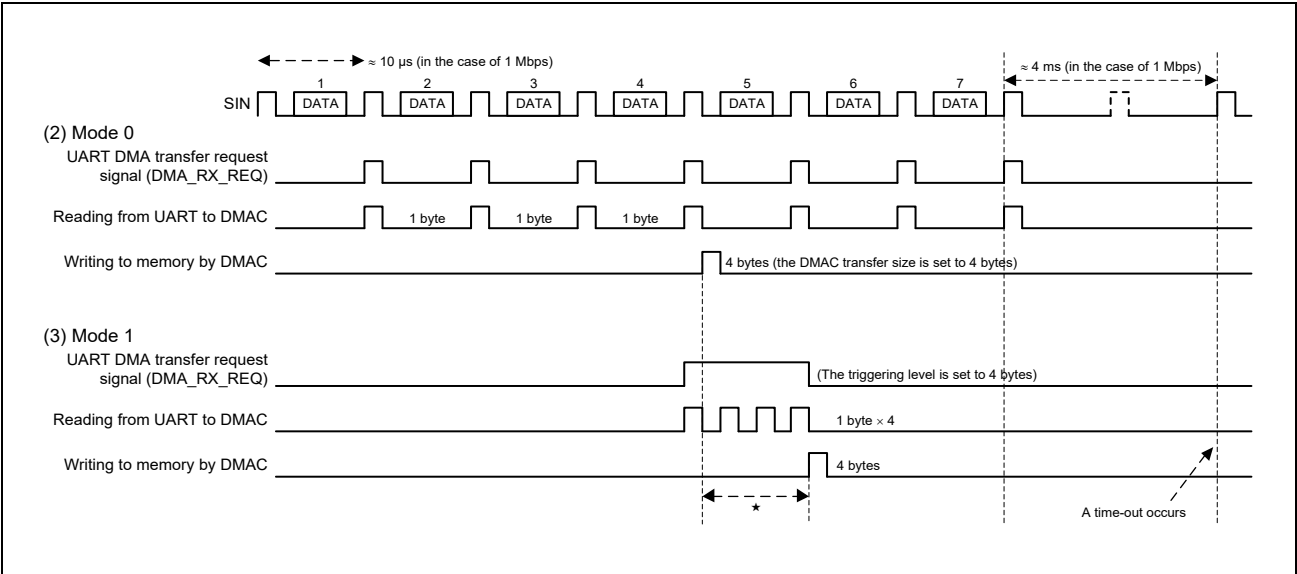

Figure 31.4-4 Example Comparison of Mode 0 and Mode 1 in DMA Transfer for Reception
Figure 31.4-4 shows an example of timing comparison of (2) Mode 0 and (3) Mode 1 listed in **Table 31.4-3, List of DMA Modes of UART**, in DMA transfer for reception. In this example, a period difference indicated by ★ is generated at the time when transfer of received data is completed.